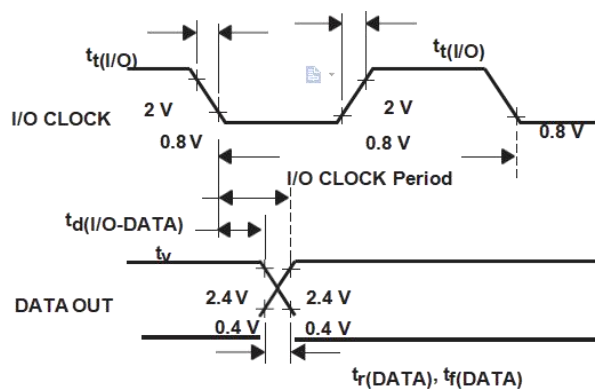

Figure 6. I/O CLOCK and DATA OUT Voltage Waveforms
6. I/O CLOCK period = 1/(I/O CLOCK frequency) (see Figure 6)